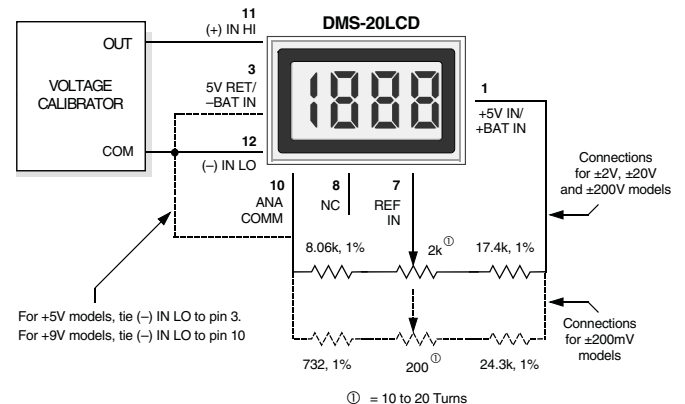

Figure 9. External Gain Adjustment
- 6. Gain Adjust:** There is a gain-adjust potentiometer on the back of each meter. It has approximately ±50 counts (±2.5%) range of adjustment. Since these devices essentially have no zero/offset errors, a gain adjustment is effectively an overall accuracy adjustment. Though they may be performed at any point (except zero), accuracy adjustments are most effective when performed with higher level input signals. The circuit shown in Figure 9 provides ±10% range of adjustment.
7. **External Gain Adjustment:** Connect REFERENCE OUT (pin 8) to REFERENCE IN (pin 7) for normal, factory calibrated, operation. Use the circuit shown in Figure 9 for applications needing external gain adjustment. Calibration is performed with a precise, near-full-scale, input voltage.